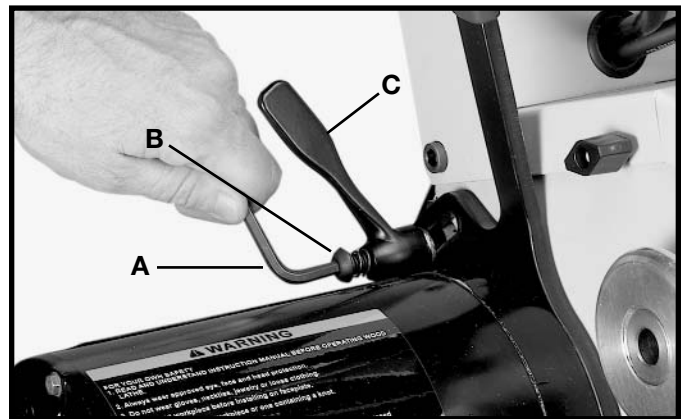

Fig. 72
2. Use a 7/32" Allen wrench (A) Fig. 72 to remove screw (B) Fig. 72 from locking handle. Remove locking handle (C).